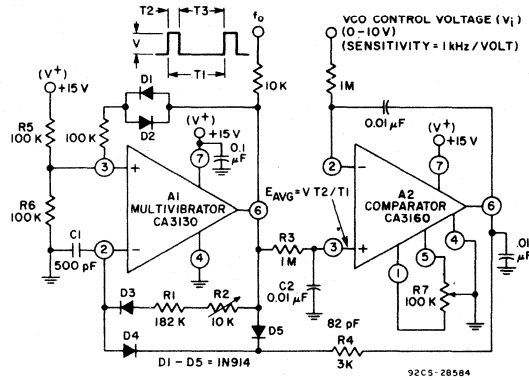

Fig.21 - Voltage-controlled oscillator.
The circuit diagram of a precision voltage-controlled oscillator is shown in Fig.21. The oscillator operates with a tracking error in the order of 0.02 percent and a temperature coefficient of 0.01%/°C. A multivibrator (A1) generates pulses of constant amplitude (V) and width (T2). Since the output (terminal 6) of A1 (a CA3130) can swing within about 10 millivolts of either supply-rail, the output pulse amplitude (V) is essentially equal to V+. The average output voltage ( $E_{avg} = V T_2/T_1$ ) is applied to the non-inverting input terminal of comparator A2 via an integrating network R3, C2. Comparator A2 operates to establish circuit conditions such that  $E_{avg} = V_1$ . This circuit condition is accomplished by feeding an output signal from terminal 6 of A2 through R4, D4 to the inverting terminal (terminal 2)